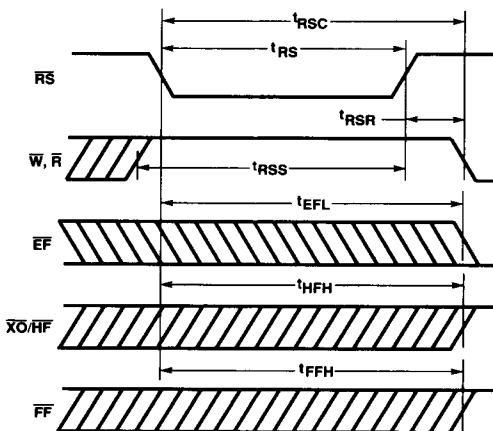

Figure 2. Reset Timing
Upon power up, the FIFO must be initialized with a Reset cycle. (See Figure 2.) The states of XI and FL are used during the reset cycle to determine the FIFO's mode of operation, as shown in Tables 1 and 2. For a valid reset cycle to occur, both the Read (\bar{R}) and Write (\bar{W}) signals must be HIGH t_{RSS} prior to and t_{RSR} after the rising edge of Reset (\bar{RS}). The reset cycle initializes the FIFO to an empty condition, signified by the Empty Flag (EF) being LOW, active, and both the Half-Full (\bar{HF}) and Full Flag (\bar{FF}) being HIGH, inactive.